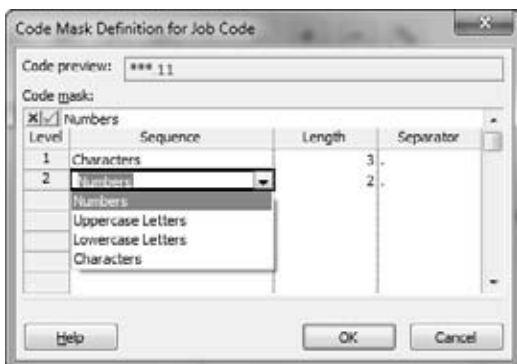

Figure 24-5:
5. In the first Sequence cell, choose the type of characters you want for the top level of the hierarchy, as shown in Figure 24-5.